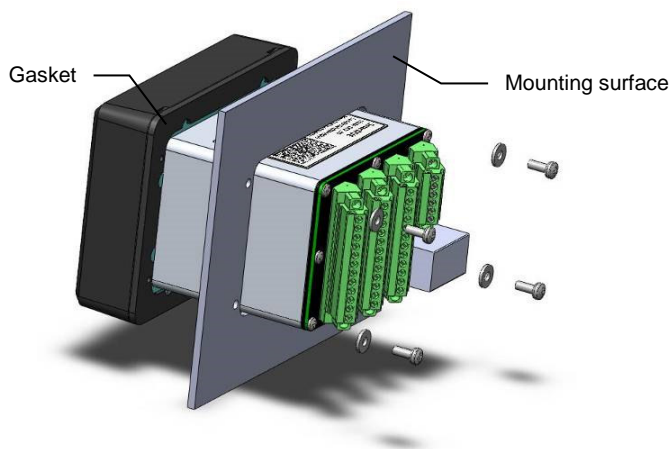

Figure 21-3 SmartVue installation – exploded view
3. Insert the SmartVue through the panel cutout, as shown in Figure 21-3.